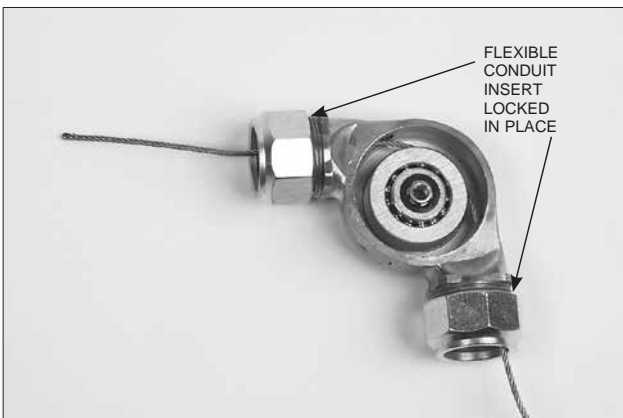

FIGURE 4-51
3. Tighten the nut to the connector conduit body, locking the flexible conduit insert in place. See Figure 4-51.